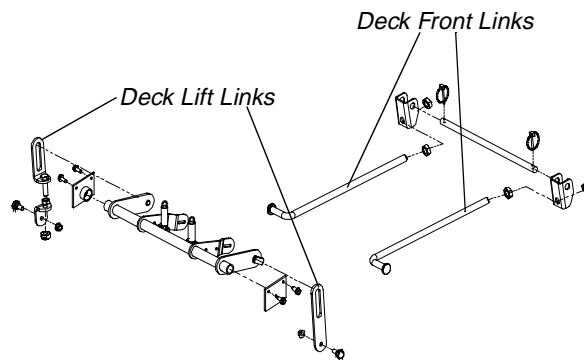

Figure. 5
- c. If the dimension at the front of the mowing deck is 1/8"-1/4" lower than the dimension at the rear of the deck (pitch) on each side of the mower, do not adjust. If not, you will need to adjust the Deck Front Links (See Figure 5).